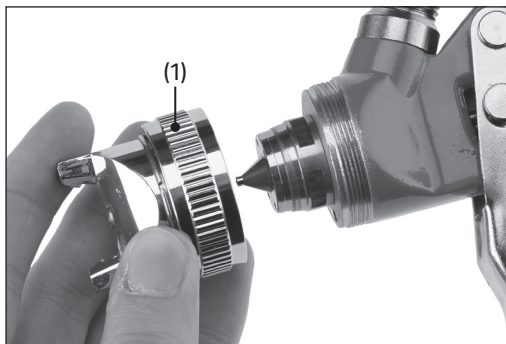

Fig. 15
- a. Twist the air cap (1) anticlockwise to remove it (Fig. 15).